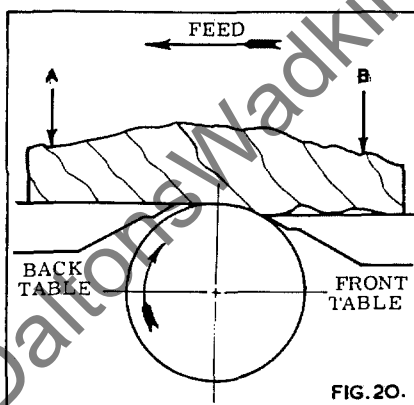

FIG. 20.
2. To obtain a perfectly flat surface especially with warped stock always put maximum pressure on the back table at "A" in fig. 20 and as little as possible on the front table "B".